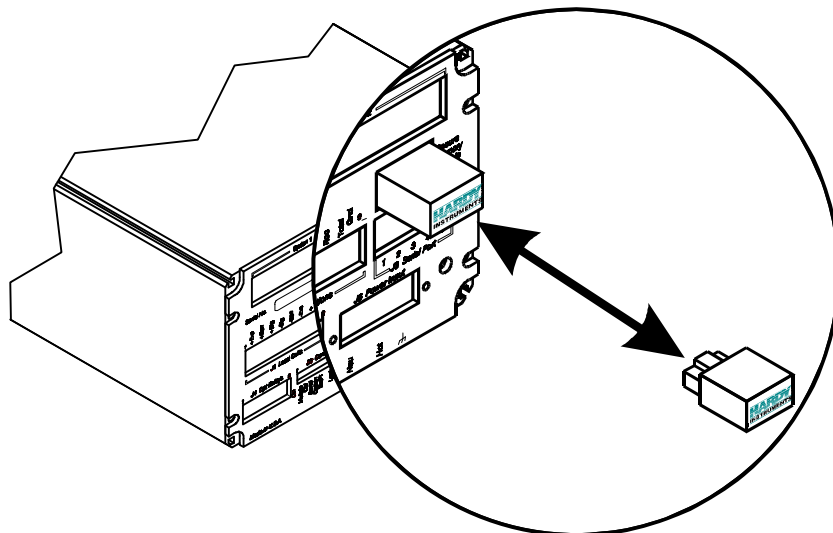

FIG. 3-22 INSTALLING AND REMOVING THE SECURE MEMORY
- Step 4. To remove the module pull the module straight out of the housing. (See Fig. 3-22)